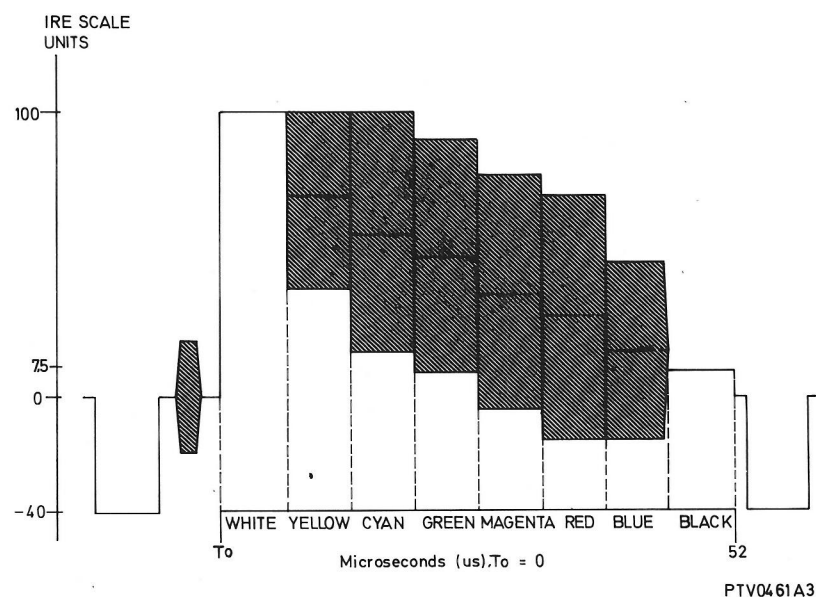

Fig. 3-11 FCC color bar
6. (H) FCC color bar (See also fig. 3-11)